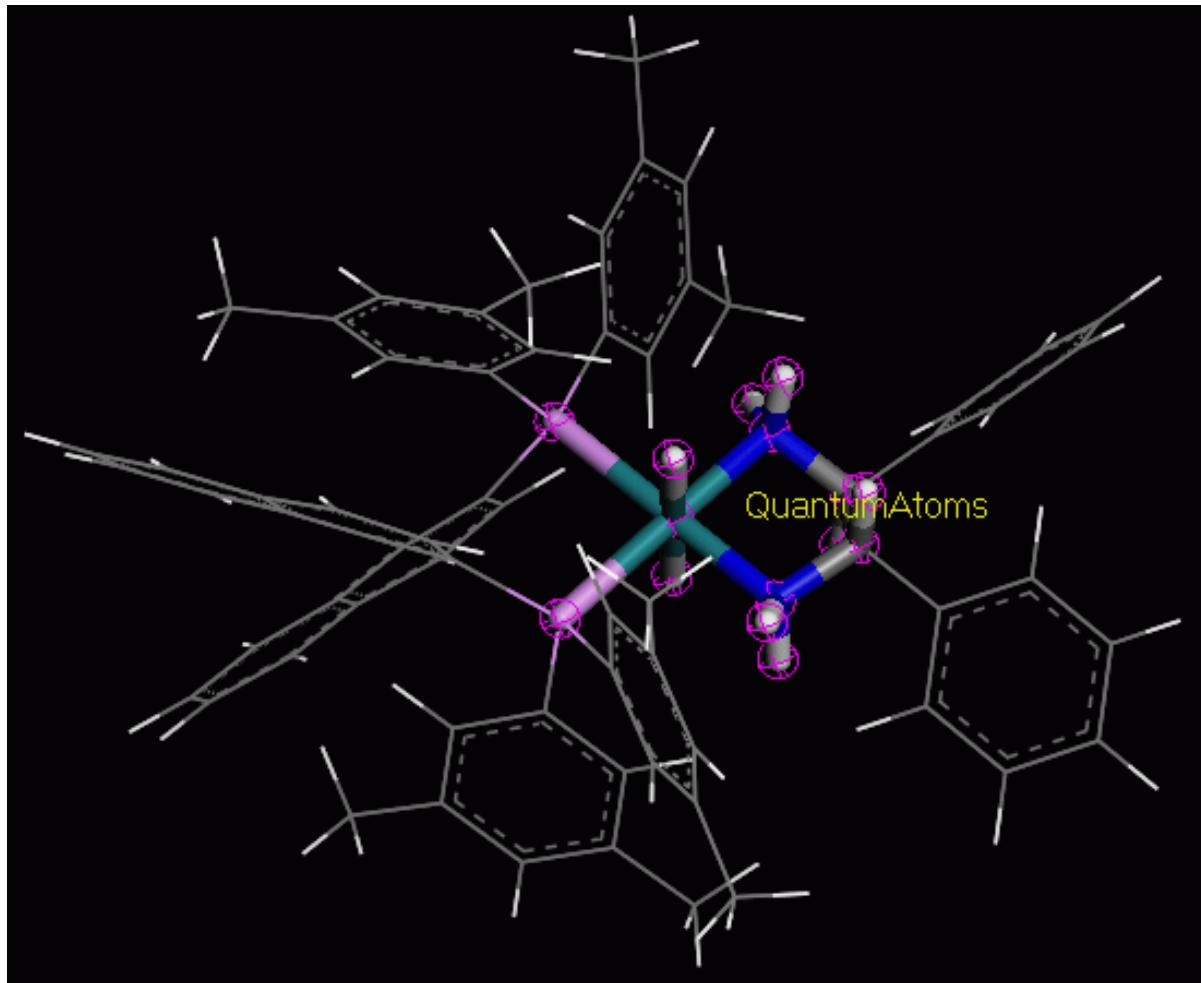

Figure 3. Ru(II) complex with the QM region indicated using stick representation.
You need to define the QM region first. The atoms to include in the QM region are shown in Figure 3. The QM region includes the Ru center, the two hydrides (H), the two P atoms and the H₂NCH₂NH₂ diamine backbone.